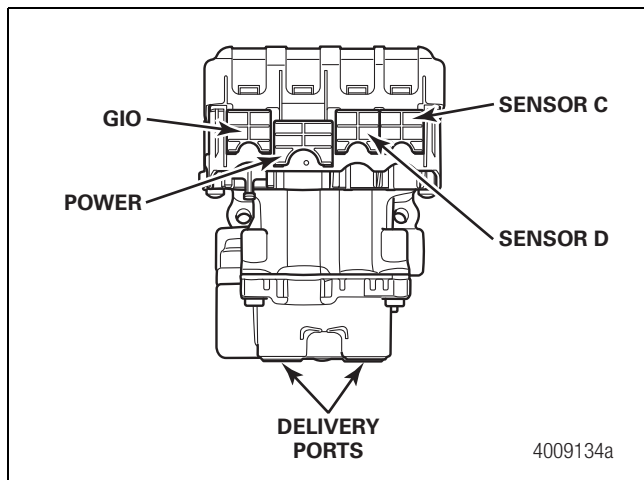
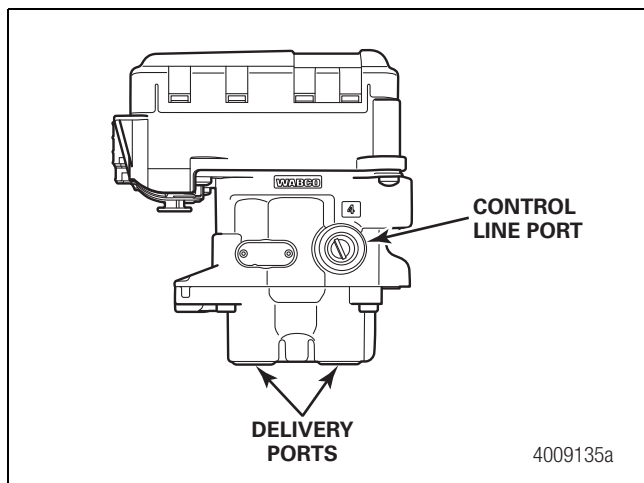

Figure 6.4
Figure 6.5
4. Disconnect the power cable, additional GIO cable (if used), and all sensor cables from the ECU/Valve Assembly. Figure 6.3, Figure 6.4 and Figure 6.5.
**NOTE:** When a GIO cable is not plugged into a connector, the black cap must remain in the connector to protect it from dirt and contamination. Figure 6.3, Figure 6.4 and Figure 6.5.